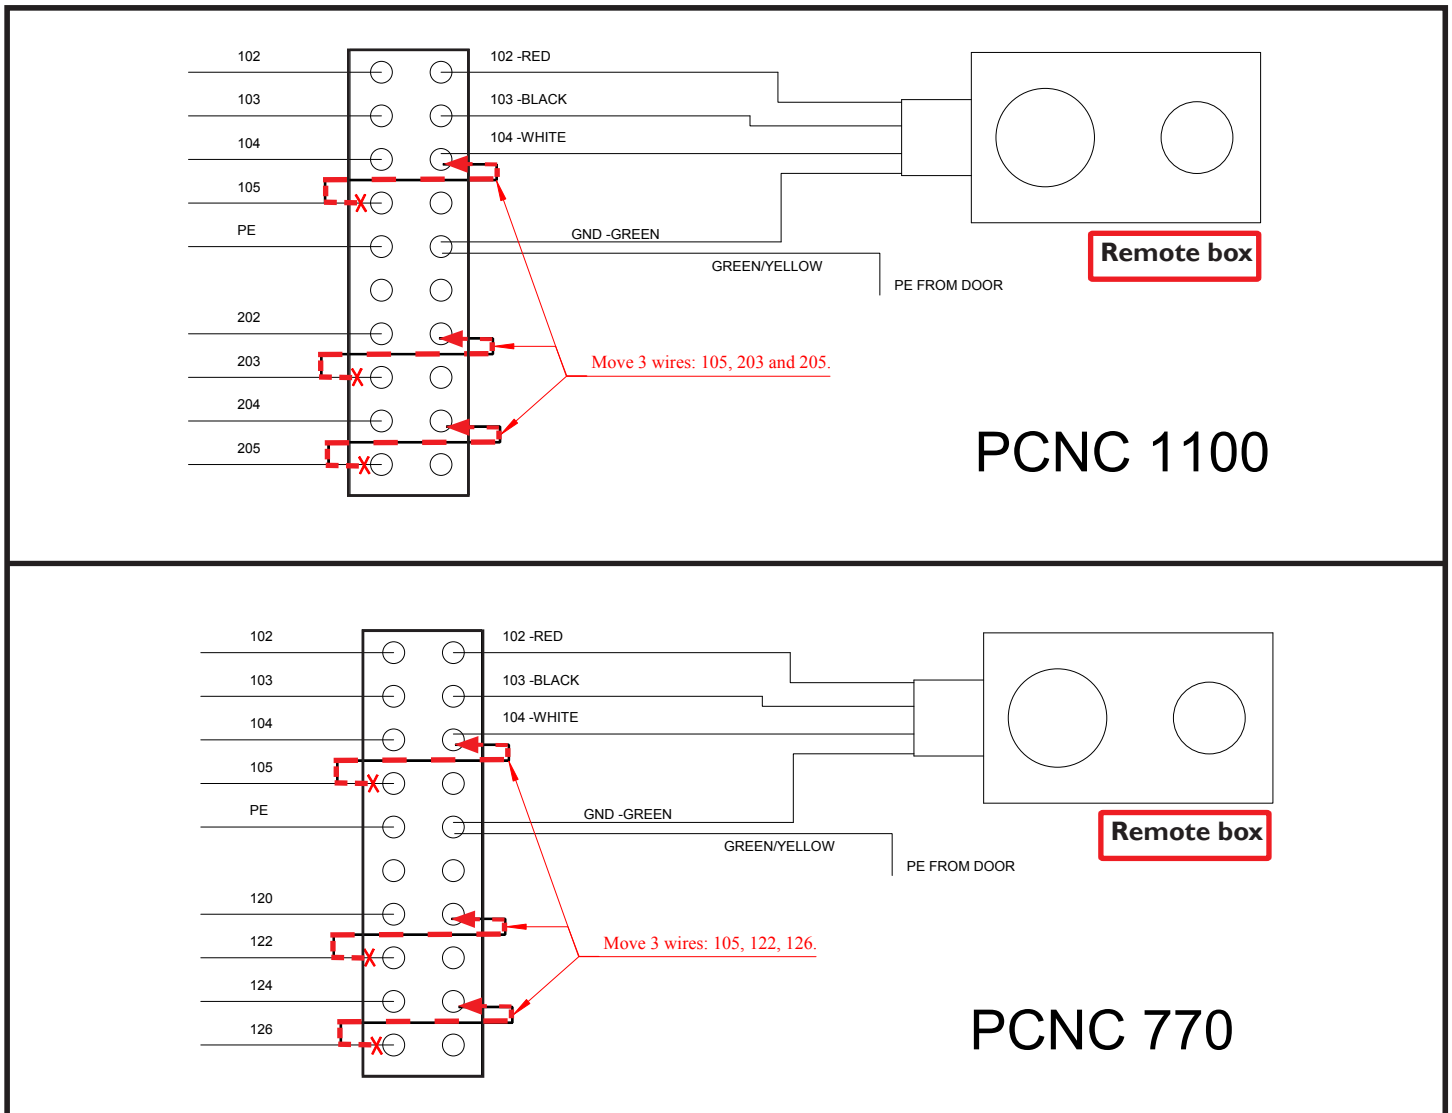
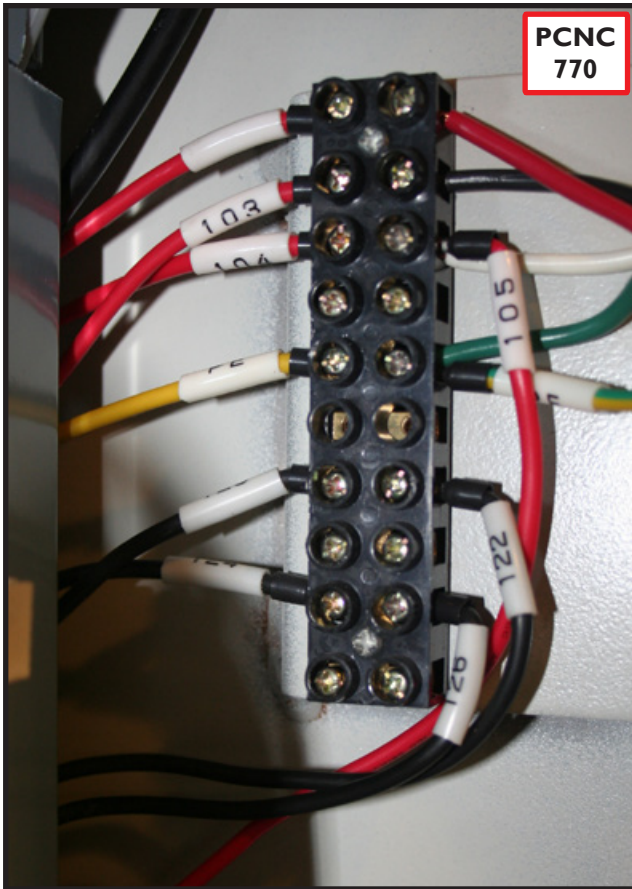

Figure 8
Figure 9
13. Three Terminal Strip wires need to be relocated as indicated in Figure 8. Also refer to the final wiring images shown in **Figures 9 and 10**. The purpose of relocating these wires is to replace the following hard switches in the old Operator Panel: Controller ON/OFF, Coolant ON/OFF/AUTO, Spindle Lock Out ON/OFF
IMPORTANT: Be sure to follow the rewiring instructions in Figure 8 that are specific to your mill (either PCNC 1100 or PCNC 770).